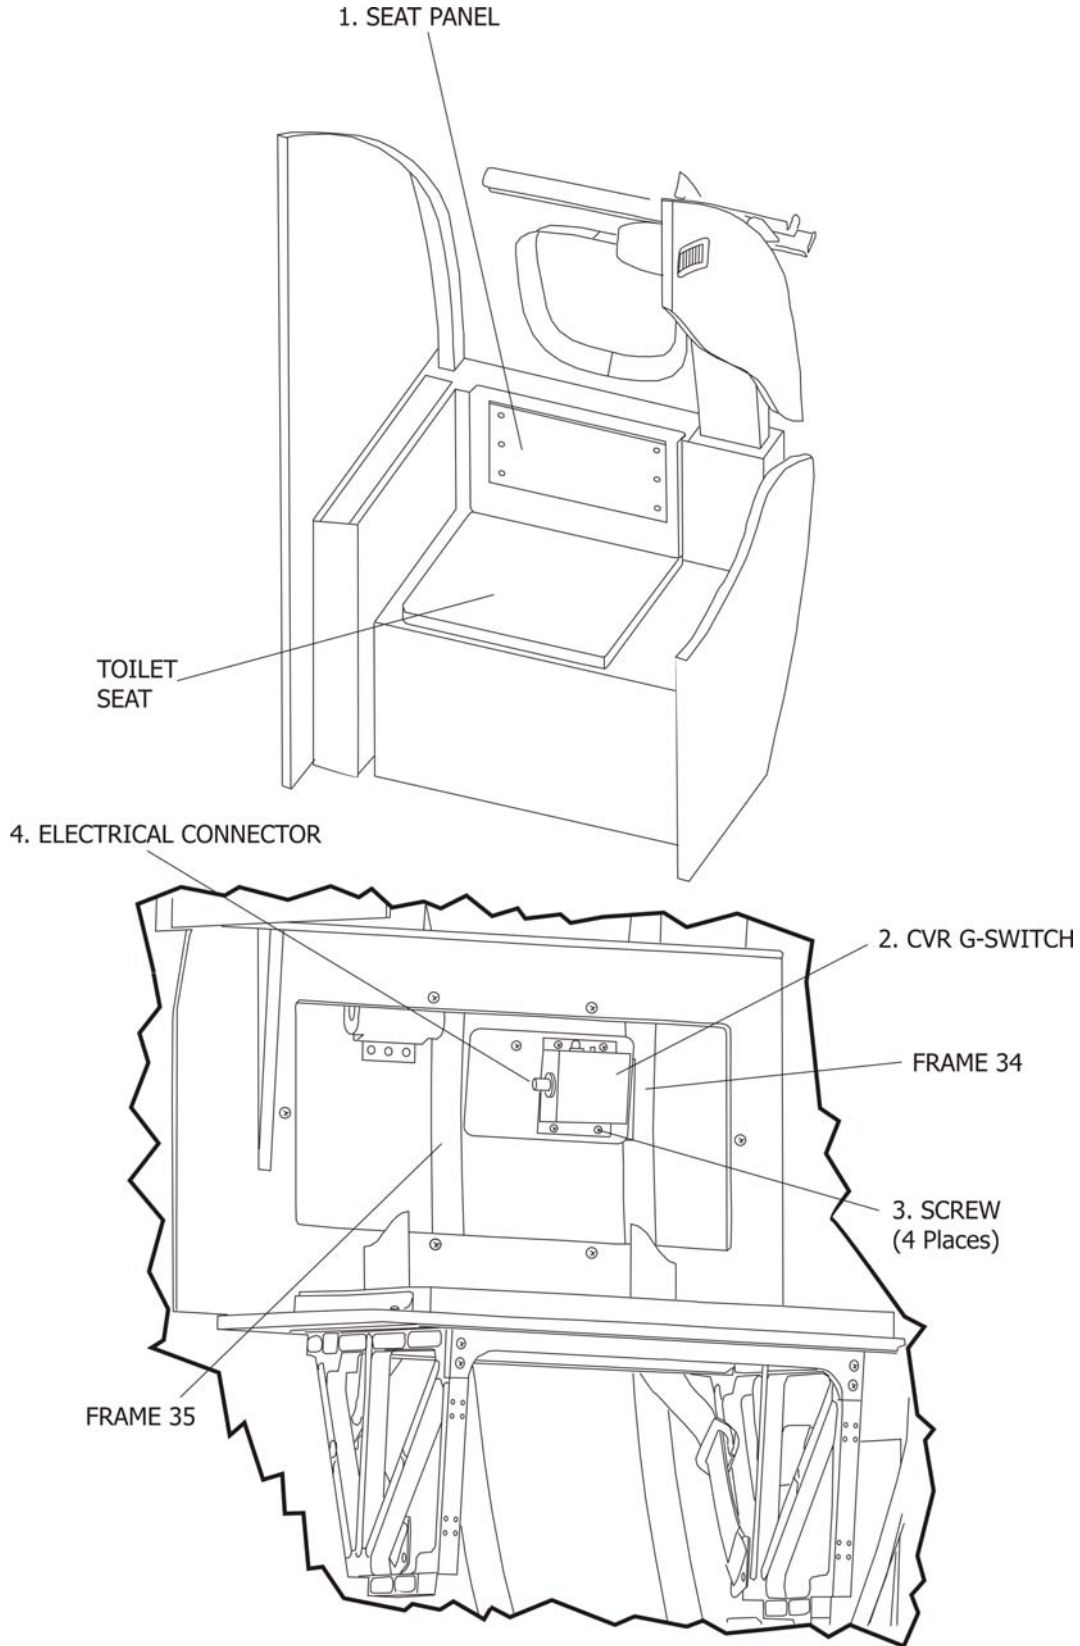

Fig. 203 - CVR G-Switch - Removal / Installation
6. CVR G-Switch - Removal (Refer to Fig. 203)
7. CVR G-Switch - Installation (Refer to Fig. 203)